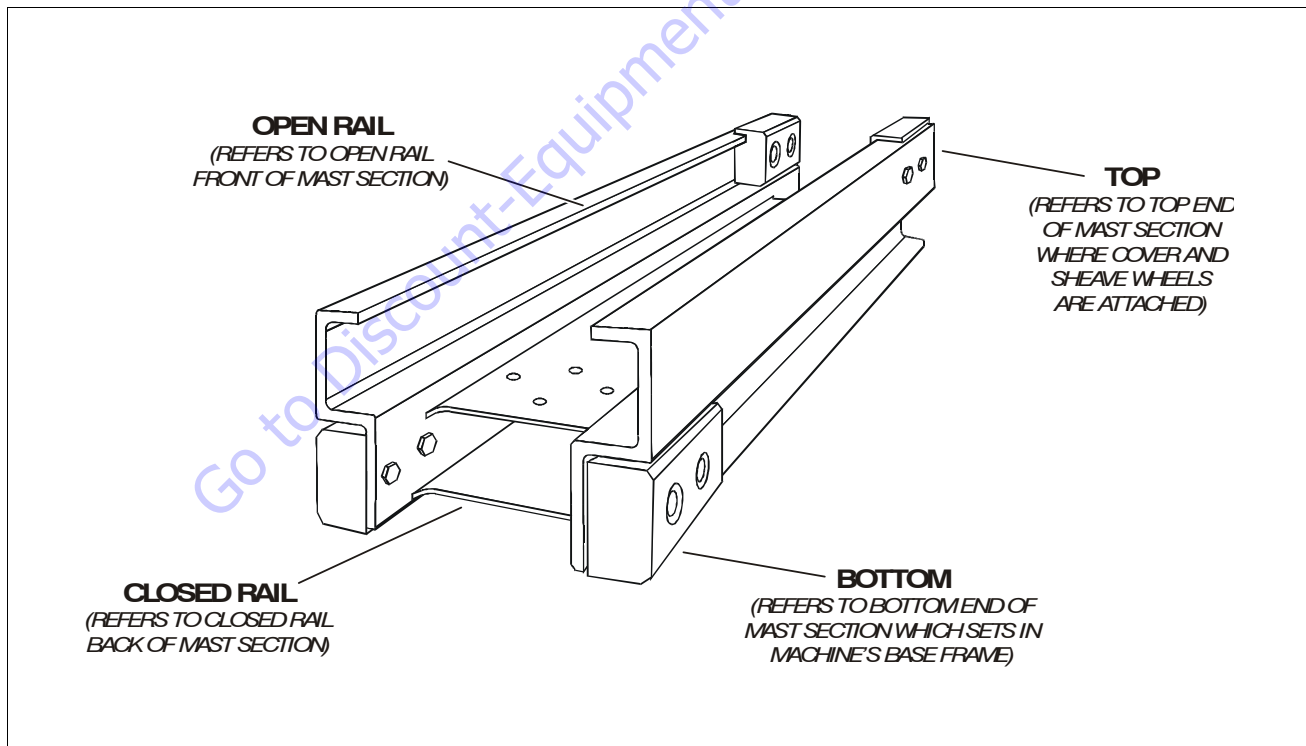

Figure 5-14. Mast Section - Assembly Reference
1. Place mast section-1, rail (open) side up (See Figure 5-14. on page 5-16) on a clean, flat surface (preferably a table or work bench capable of supporting the weight of the entire mast assembly). Slide mast out over end of work surface far enough to allow access to the chain anchor attach hole near the top of the mast.
2. Locate the two (2) single (wide) chain assemblies and attach to the large equalizer anchor plate (if not already attached). Lay out the chain/anchor plate assembly with the anchor plate end towards top of the mast. (Be certain floor surface is clean and free of any metal chips or debris which may stick to lubricated chains).